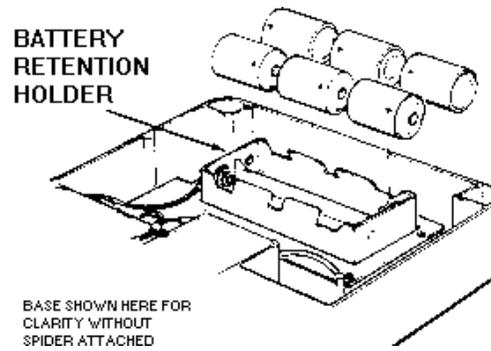

Figure 7
- 6). Remove the platter and install the six 1.5 VDC alkaline D-Cell batteries in the battery holder, orienting the positive/negative terminals in the direction shown on the battery holder. (Figure 7).